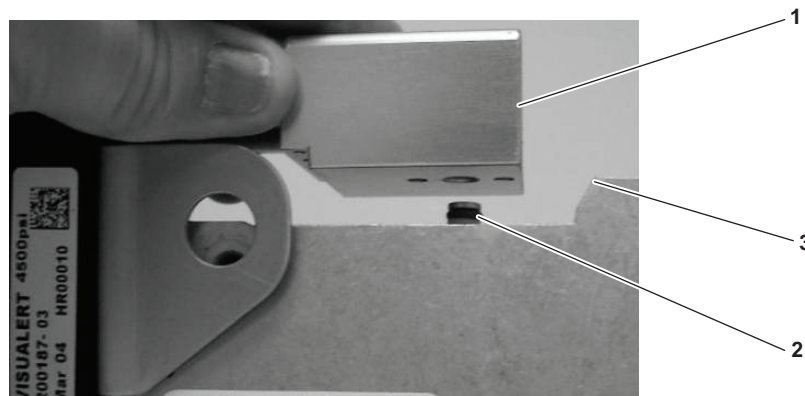

Figure 6-36. Position Visualert Mounting Block
- (8) Carefully place the Visualert mounting block (figure 6-36, item 1) over the mounting probe (figure 6-36, item 2) and onto the pressure reducer (figure 6-36, item 3).